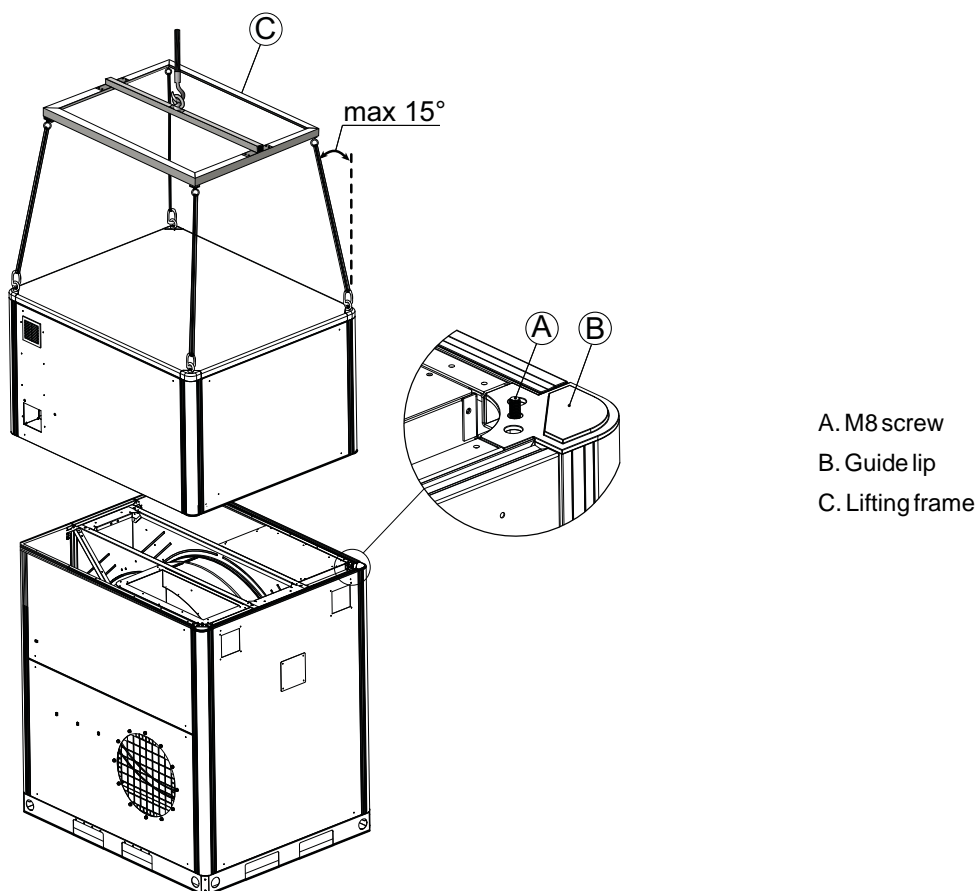

Figure 3.9 Lifting the top box
A lifting frame with four slings must be used when lifting the top box. The lifting angle must not exceed 15°, see Figure 3.9.
3. Lift the top box onto the rotor box and make sure that the guide lips and M8 screws align in each corner, see *Figure 3.9*.